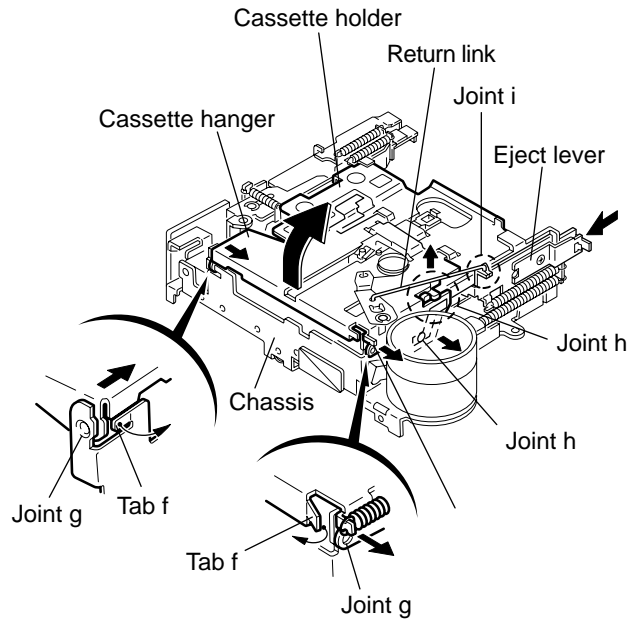

Fig.3
**■ Removing the cassette hanger / cassette holder (See Fig.3)**